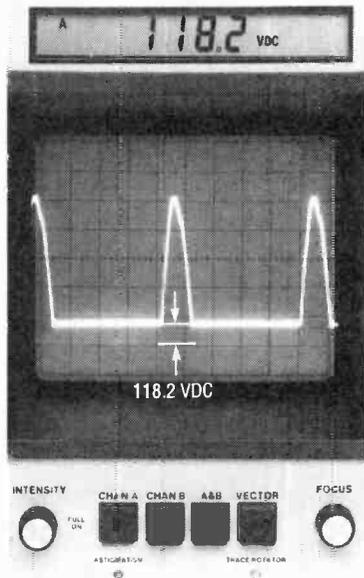
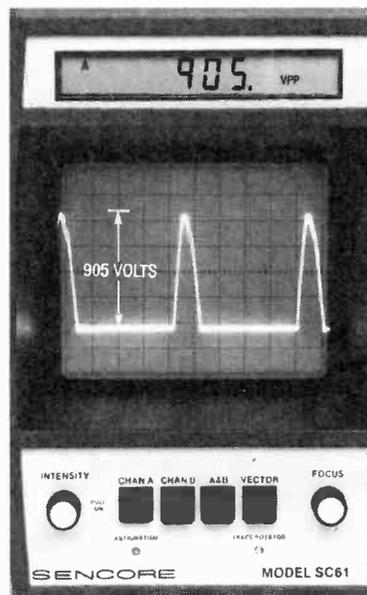

FIG. 1—THE WAVE SHAPE should be symmetrical during the pulse retrace time.
FIG. 3—THE PEAK-TO-PEAK voltage of the waveform should be between 900 and 1500 volts peak-to-peak. It's shown here as 905 volts peak-to-peak.
**FIG. 3—THE TIMING RELATIONSHIPS in the inverter. When IC2 pin 3 goes high, the output of buffer IC1-c (pin 8) is high. That reverse biases D1 and allows the error amp signal to reach Q1, Q2, and Q3. At the same time, IC2 pin 4 is low, which causes the output of buffer IC1-d to be low. That grounds the gates of Q4, Q5, and Q6 thereby turning them off.**
The first thing to check when analyzing the horizontal output pulse is the wave shape; it should look like the one shown in Fig. 1, and be symmetrical in shape during the retrace time. A wide peak at the top of the retrace, or deep saddle conditions, can be caused by an off frequency or glitch in the horizontal transistor base-drive signal. Such problems are often caused by a change in the value of the output-transistor timing capacitors, or by an excessive load on a B+ supply.
First measure the DC voltage level of the horizontal waveform. In Figs. 1 and 2 you can see that the digital display shows approximately 118 VDC, which is the regulated B+ voltage. Next measure the peak-to-peak voltage of the waveform. As you can see from Fig. 3, the display shows 905 volts peak-to-peak.